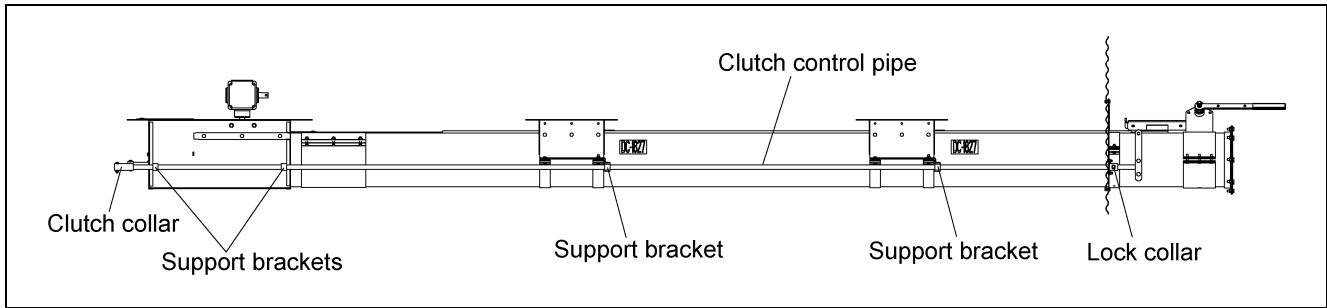

Figure 4S
- Slide the clutch control pipe through the bin flange and the support brackets on the intermediate and center wells. Slide the clutch control pipe into clutch collar on the center well. See Figure 4S and Figure 4T.